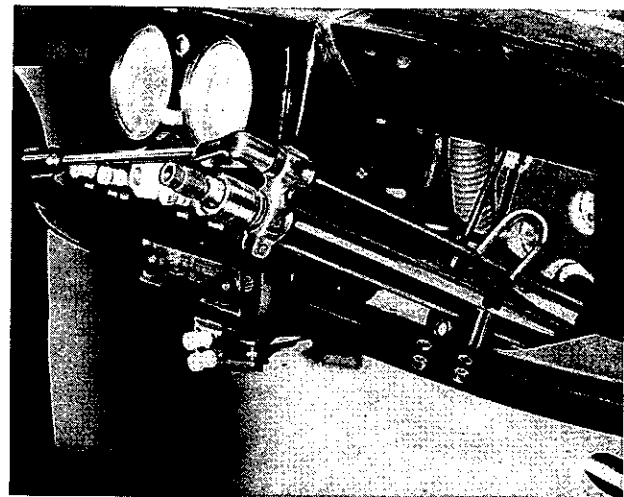

Fig. 11. Showing steering wheel and upper portion of column support removed
14. Free the bolt which secures the steady bar to the support bracket and remove the "U" bolt nuts which secure the two halves of the bracket to the cubby hole see Fig. 11.